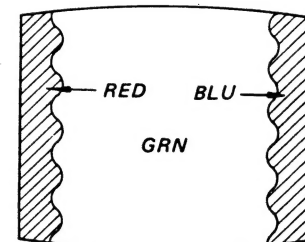

Fig. 3-3
6. Adjust purity magnet tabs to center vertical green band as shown in Fig. 3-3.